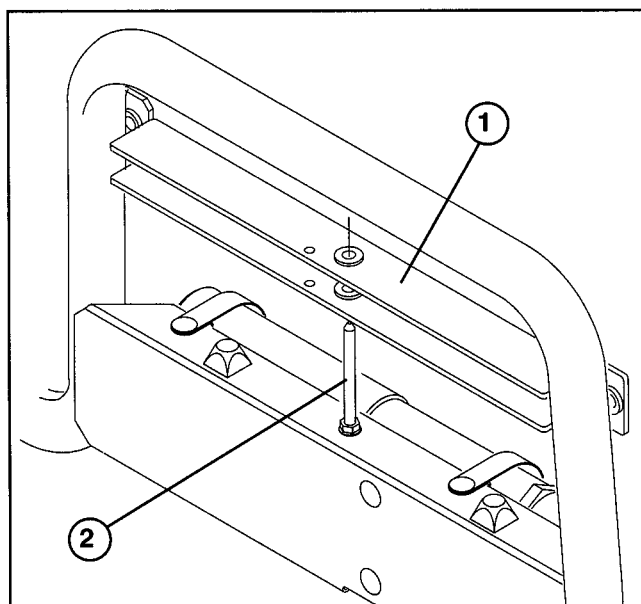

Figure 31
USING BED SAFETY SUPPORT (Fig. 31 & 32)
2. Remove bed support from storage stud on top of back rest support channel on Workman (Fig. 31).